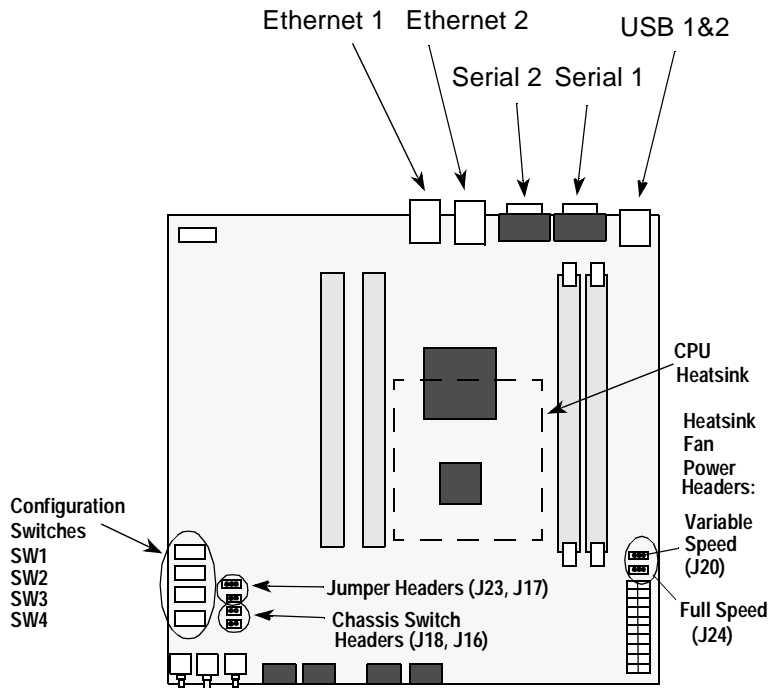

Figure 4. HPC II Evaluation Board Diagram
5. Grasping each side of the case, slide the top of the case forward and then lift and remove the top cover. Figure 4 is a diagram of the HPC II evaluation board.